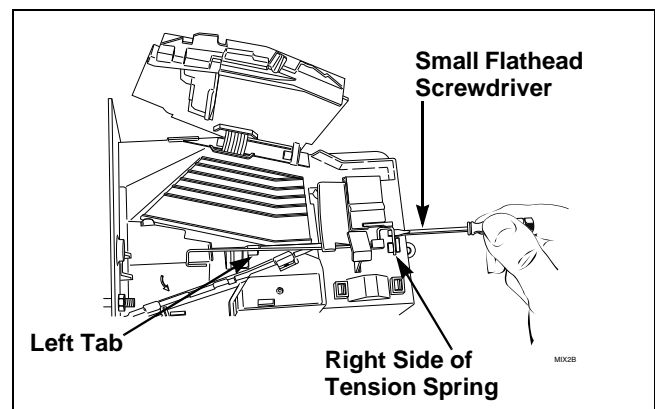

Figure 4
3. Place a small flathead screwdriver under right side of tension spring and lift up. Refer to *Figure 4*.
5. Lift spring over left tab. Refer to *Figure 4*.
14. Push spring to right until it snaps into position. Refer to *Figure 4*.